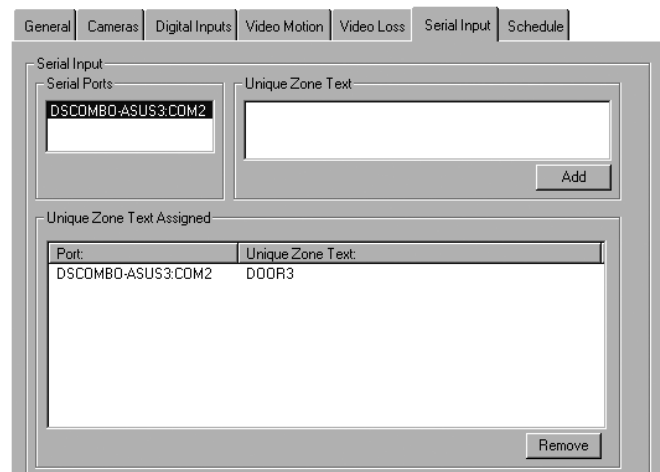

Figure 27. Serial Input Tab for Sending Text Strings That Trigger Recordings
- **Serial Input:** Looks for certain text in strings sent by alarm panels, as entered during the Computer Configuration (refer to Figure 27). Select a COM port on the server, enter text that the alarm panel will send during a particular alarm, and click Add. Whenever the alarm panel sends this text through the designated COM port, the zone's cameras begin recording.